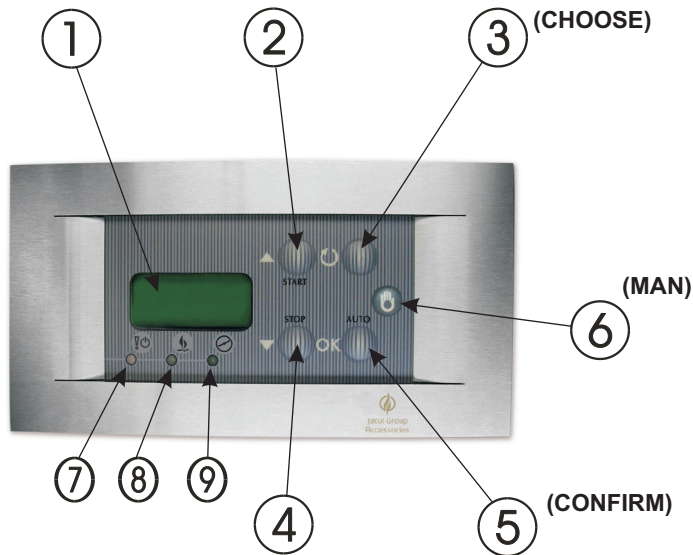

Fig.2 Control panel view
There are elements on the control panel (Fig. 2). In the standby state only the green diode (7) lights indicating the standby mode. The turn-on of the regulator follows after opening the furnace door. After closing the door the combustion cycle starts, which is signaled by the green diode (8).